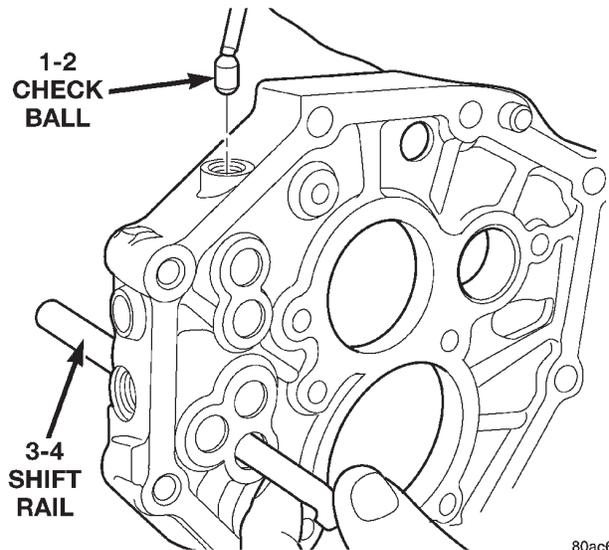

Fig. 74 Remove 1-2 Check Ball
(33) Remove 1-2 shift rail elongated check ball from intermediate plate (Fig. 74).
(34) Remove 3-4 shift rail from intermediate plate.